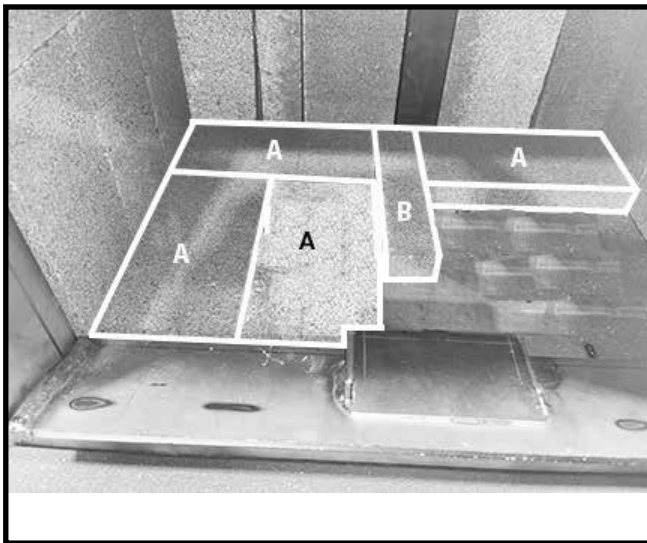

Figure 26: A bricks in front of rear A brick.
7. Place two "A" bricks in front of the left side "A" brick located at the rear of the firebox floor and slide them back so that both "A" bricks are touching. (Figure 26). (For install without optional ashdump.)